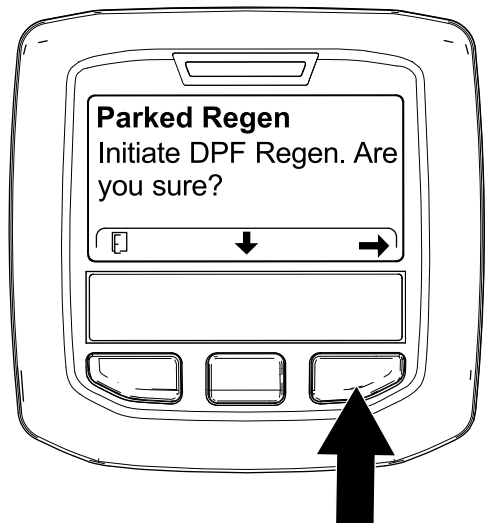

Figure 55
- At the INITIATE DPF REGEN screen, press the right button to continue (Figure 55).